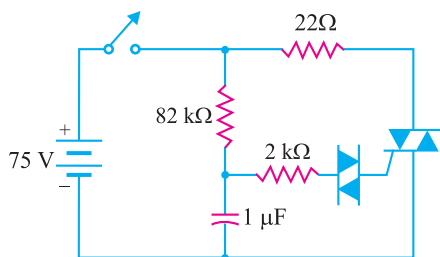

Fig. 21.34
- In Fig. 21.34, the switch is closed. If the triac has fired, what is the current through the  $22\Omega$  ?